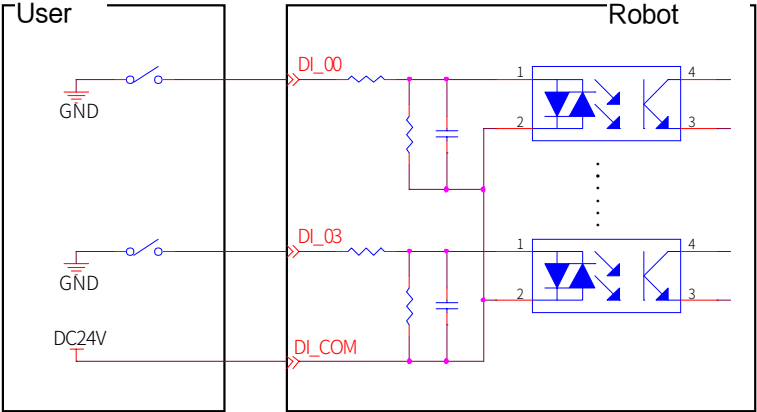

Figure 6-7 NPN input wiring diagram
- See Figure 6-7 for details on an NPN configuration.